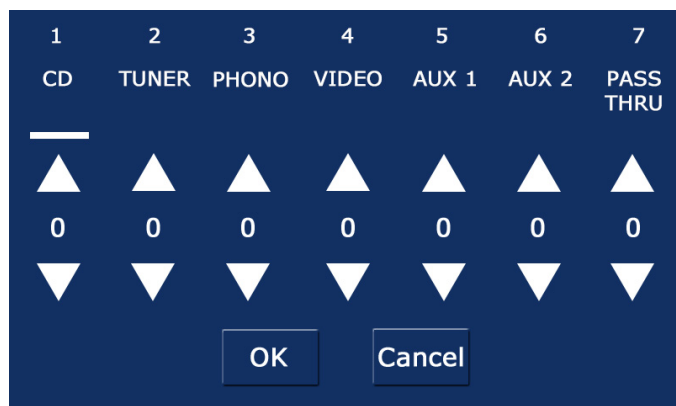

fig. 9
**Input Gain Offset:** You may experience some devices playing consistently louder than others (for example, a CD player may always play louder than a turntable). In this event, the Input Gain Offset can be engaged to balance the overall volume between the differing inputs, alleviating the need to adjust the master volume when changing between inputs. The Input Gain Offset screen is designed so you can make adjustments easily to each input in real time. For best results, play all devices connected to the Reference 10 simultaneously, and from the Input Gain Offset page, change inputs by touching the input bar. If an input is louder or softer than another, use the up and down arrows to adjust accordingly (fig 9).